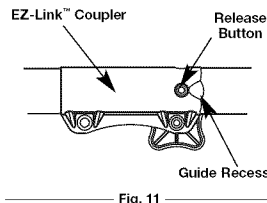

Fig. 11
2. Press and hold the release button (Fig. 11).
NOTE: Aligning the release button with the guide recess will help installation (Fig. 11).